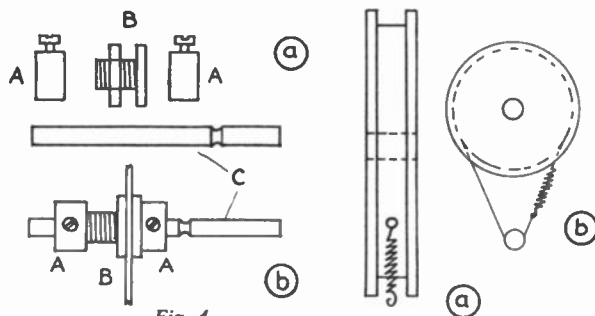

Fig. 4
Now make the drive spindle (Fig. 4). The drawings are self-explanatory. (C) is  $\frac{1}{4}$  in. spindle with a groove filed in it for the drive cord to lie in. (B) is a  $\frac{1}{4}$  in. panel bushing. (A,A) are sawn off a brass spindle coupler. First, bore a hole, to take the panel bushing, in the front runner of the chassis, and fix it in. Insert the spindle and add (A,A) and tighten the holding screws, to give an efficient spindle drive as at (b) Fig. 4.